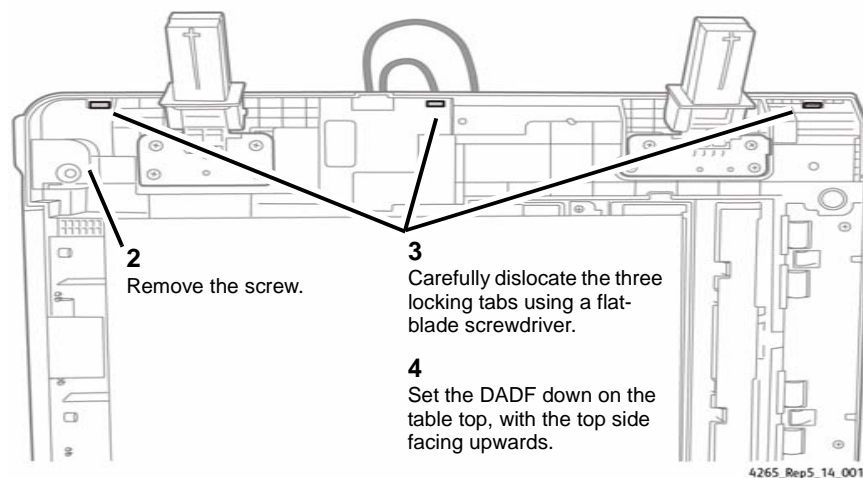

Figure 1 Dislocating the DADF Rear Cover
3. Dislocate the DADF Rear Cover (Figure 1).